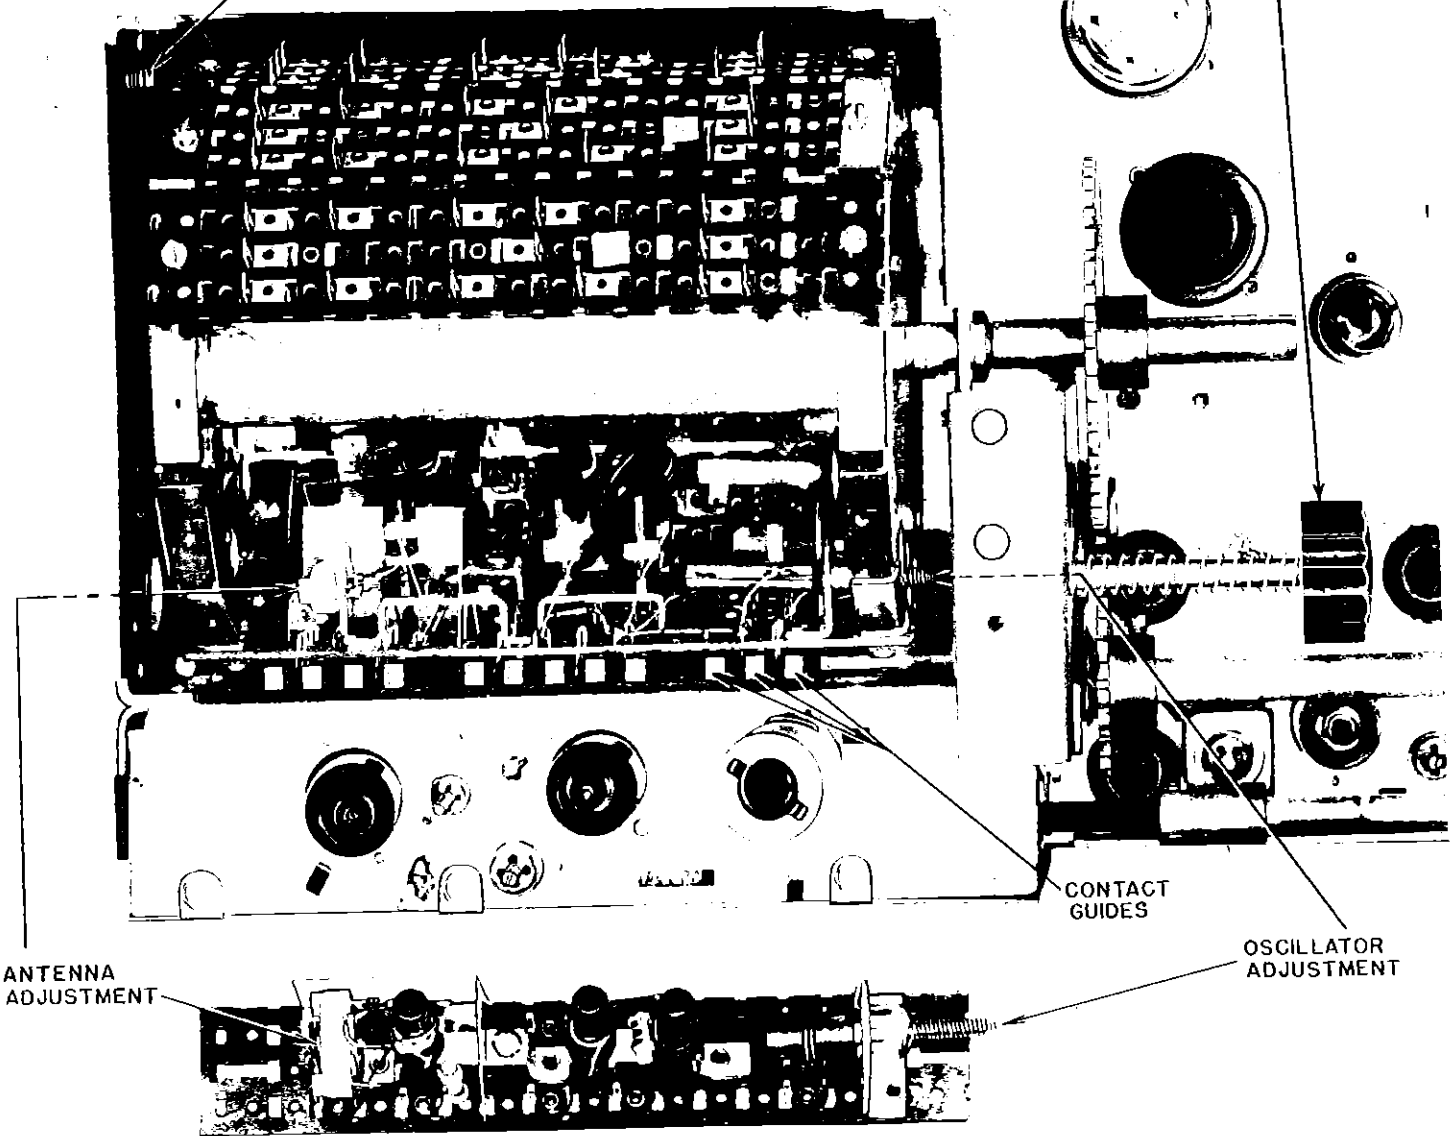

Fig. 46 Adjustment of the Channel Strips.
2. Set the channel selector and the Mega-Marker Sr. to channel 7. Adjust the strip oscillator trimmer (See fig. 46) for zero indication on the meter. This procedure is followed on channels 8, 9, 11, 12 and 13.
4. Adjust the antenna trimmer (fig. 46) for symmetry and gain. This procedure is followed on all channels, the Mega-Sweep coarse frequency control being re-set for each individual channel. If it is impossible to obtain a reasonably flat R. F. characteristic curve on any particular channel, the fault may be in the converter input tuned circuits and replacement of the strip is necessary.